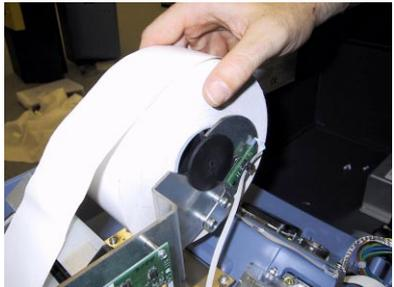

Figure 6-5. Place paper roll on bracket. Paper feeds from top of roll!
6. Place the new roll back on the paper bracket by sliding the small, slotted end of the spindle onto the slot in the bracket as shown in Figure 6-5. **Note that the paper feeds from the top of the roll**